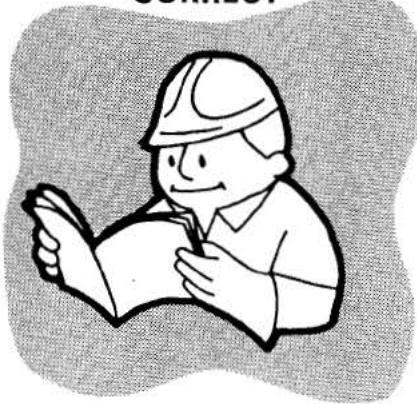

**Fig. 39** Operator Guard Cable
3. Pull the cable (Fig. 39) while the second person lifts the operator guard a small amount until the lock mechanism is released.